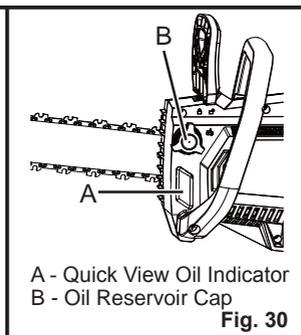

Fig. 30
- Do not overfill. Leave approximately 1/5" of space at the top of the tank to allow the oil to expand (Fig. 30).